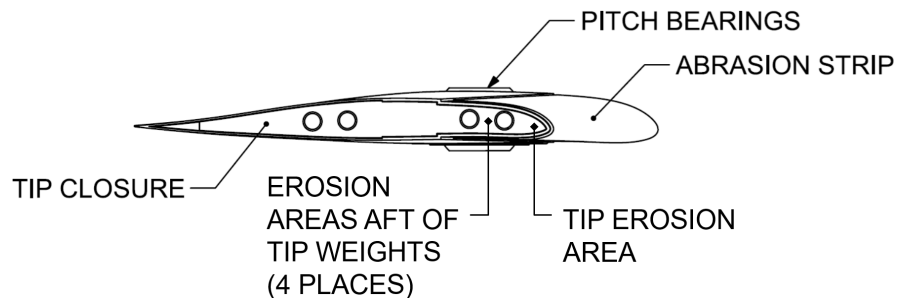

Figure 5-3
- c. In extreme conditions, erosion may occur around the tip weight holes or directly aft of the abrasion strip; see Figure 5-3. The blade may continue operation until the erosion can be addressed at the next maintenance interval.